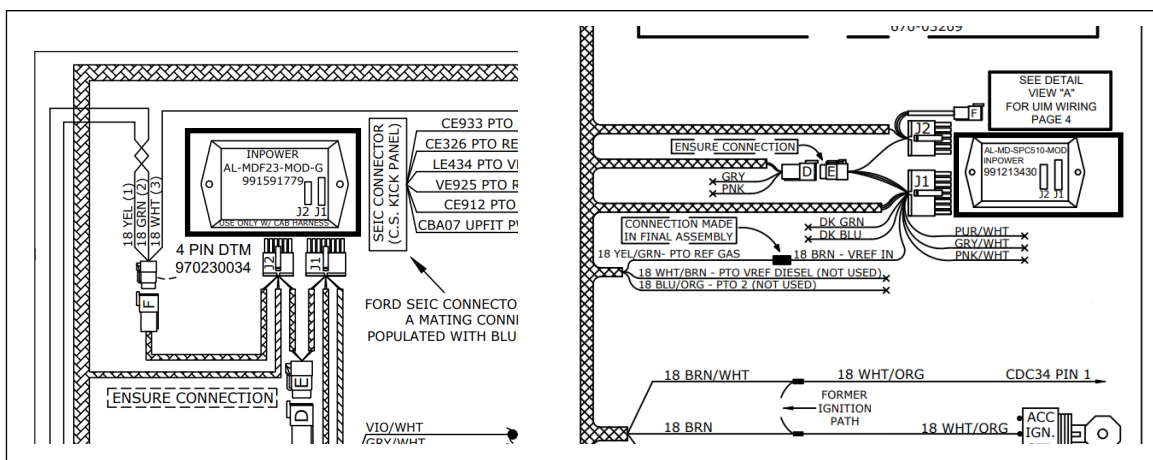

Figure 1 — Inpower Module Installed (Example Only)
2. Review the schematic and confirm if an Inpower module is installed (refer to Figure 1). Note that Figure 1 is an example only as installation and schematics will vary between units.